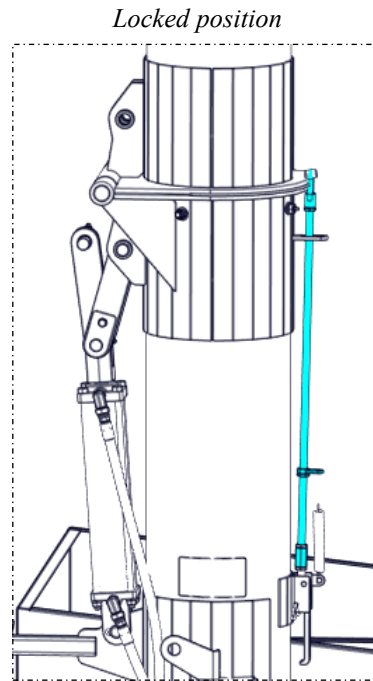

Figure 4.20
C) Upon completion of unfolding the auger, use the catch assembly to clamp the auger in position (Figure 4.20)